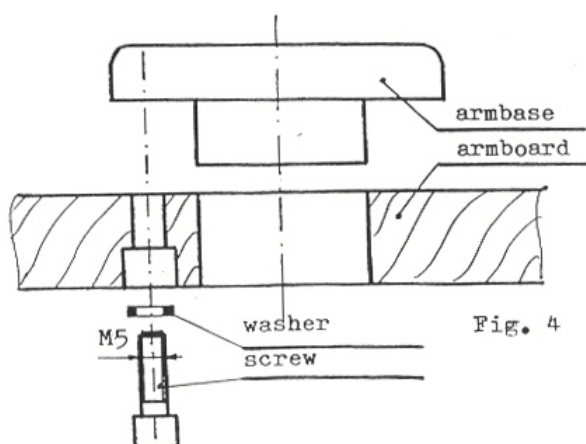

Fig. 4
5. To fix base to armboard you will need the three socket head screws, spring washers and Allen key 5 mm. Fit washers on screws and insert into underside of tonearm board and up into tonearm base. (Fig. 4). Position base so that height adjustment (VTA adjustment) screw is at top right position, i. e. 2 o'clock and tighten screws using Allen key. Remember that screws are of harder material than tonearm (steel and aluminium) so do not overtighten as this could damage base. (Fig. 5)